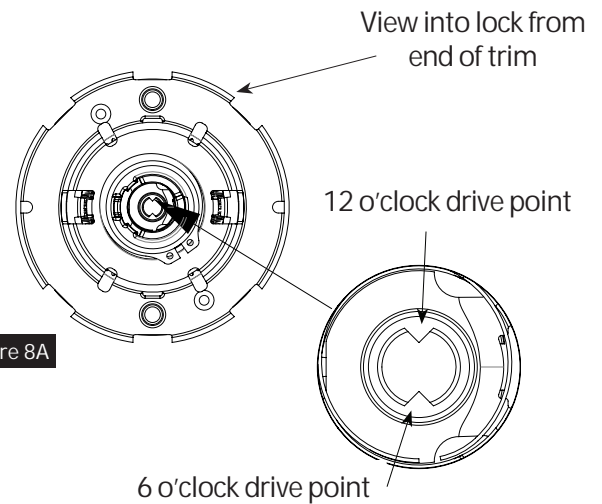

Figure 8A
- Use a flat blade screwdriver to rotate cam until the driver points are in a 6 and 12 o'clock position. (Figure 8A)